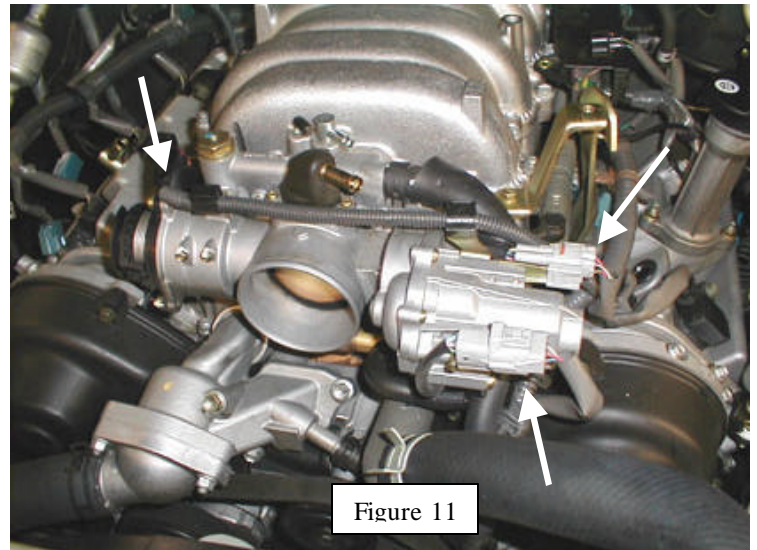

Figure 11
19. Disconnect throttle motor and throttle position sensor (TPS) connectors (Figure 11).